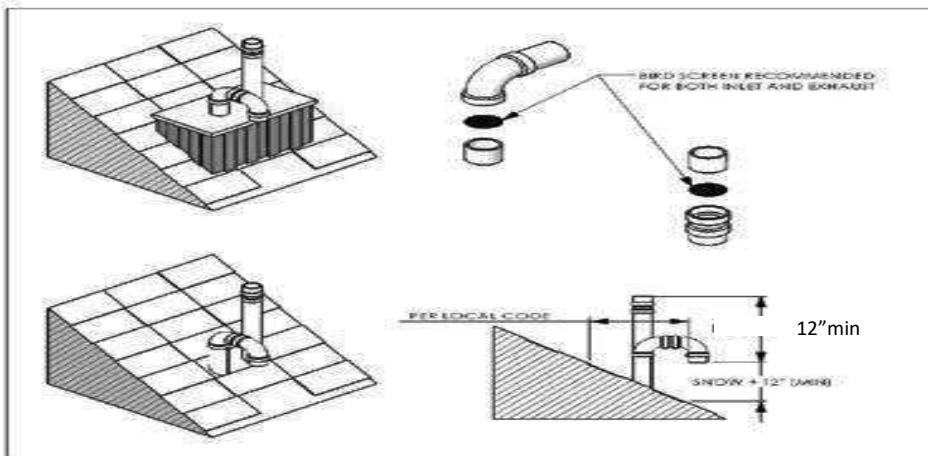

Figure 5.57.1
- **If used** in a vertical application the intake air pipe is not typically drained, so it must be terminated with a down-turned elbow to prevent rain ingress thru the air intake (see **Figure 5.57.1**). The intake pipe does not need to penetrate the roof at the same elevation as the exhaust; lower down the roof is OK. To promote the projection of exhaust away from the building and from the intake pipe, minimum distance between intake and exhaust outlet should be 12". Optional bird screen may be placed in a termination fitting.